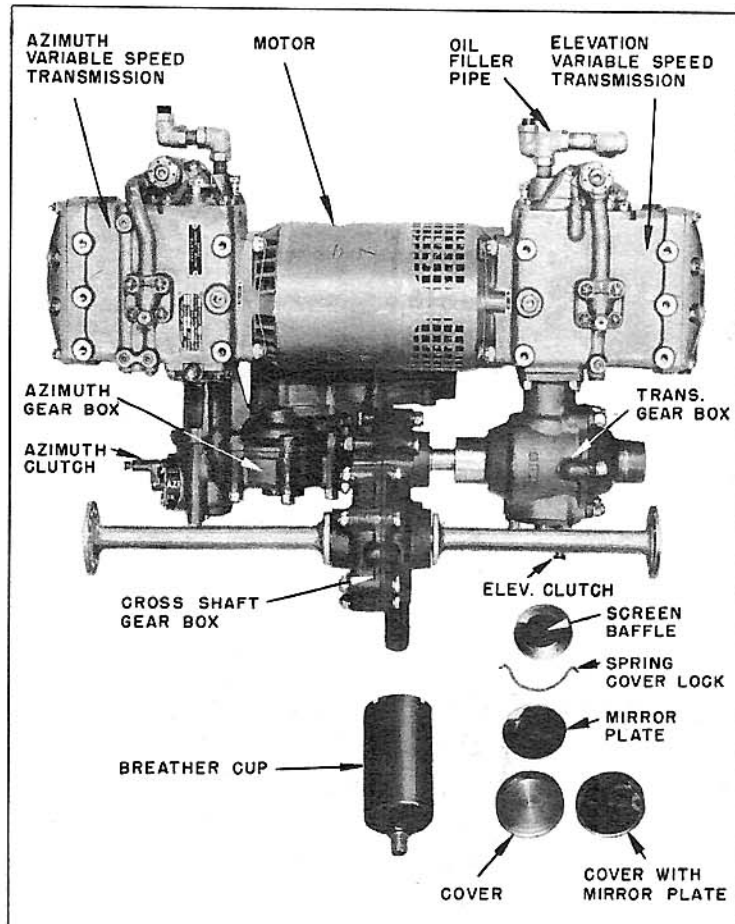

FIGURE 38
(11) Double Power Unit and Gear Boxes. - (a) The double power unit and gear box assemblies shown in Figure 38 should now be mounted in the unit housing.